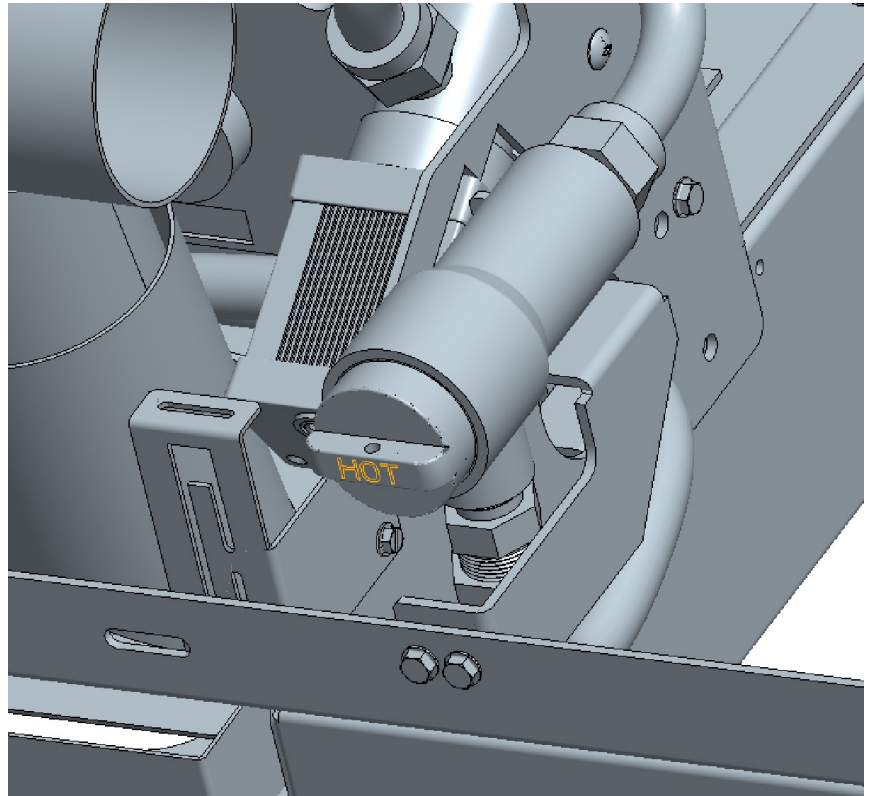

Figure 10: Position the pre-filter (as shown above).
11. Position prefilter in cabinet (as shown). see **figure 10**.
13. Mount the filter wrench holder and wrench. The position is relative to the cabinet configuration. See **figure 10**.